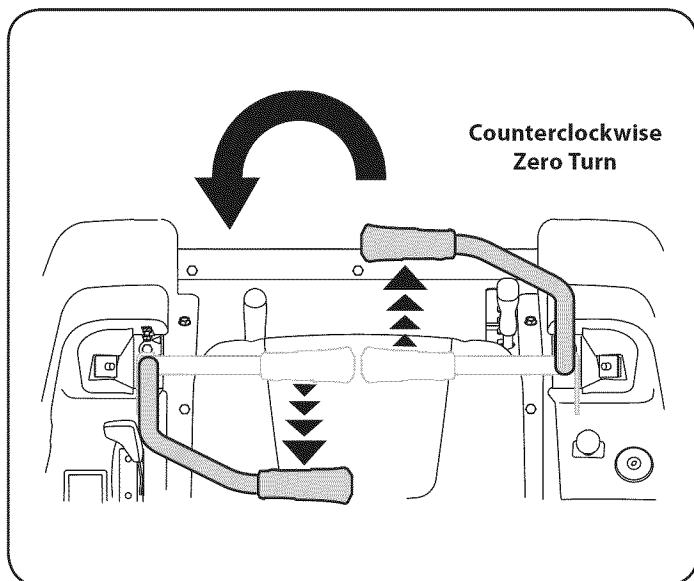

Figure 21
3. To turn counterclockwise, move the right control lever forward while simultaneously moving the left control lever rearward. See Figure 21.